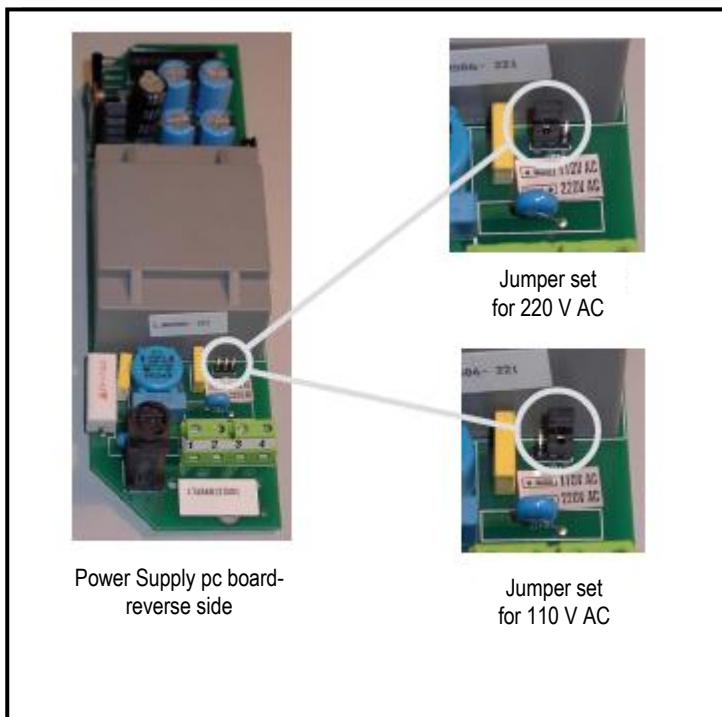

Figure 4 - Power supply jumper position 110 V AC or 220 V AC
The power supply is connected to the terminal board TB1 (See Fig. 4).
The selection between the 115 V AC and 230 V AC power settings can be changed by moving a jumper (in position JP1) on the power supply pc board. Jumpers are represented in Fig. 4. Power supply (230 V AC) is factory set. Should any modification be needed, proceed as per the following steps:
See Figure 4 to change the jumper setting.
3. locate the JP1 jumper on the power board (Fig. 4)